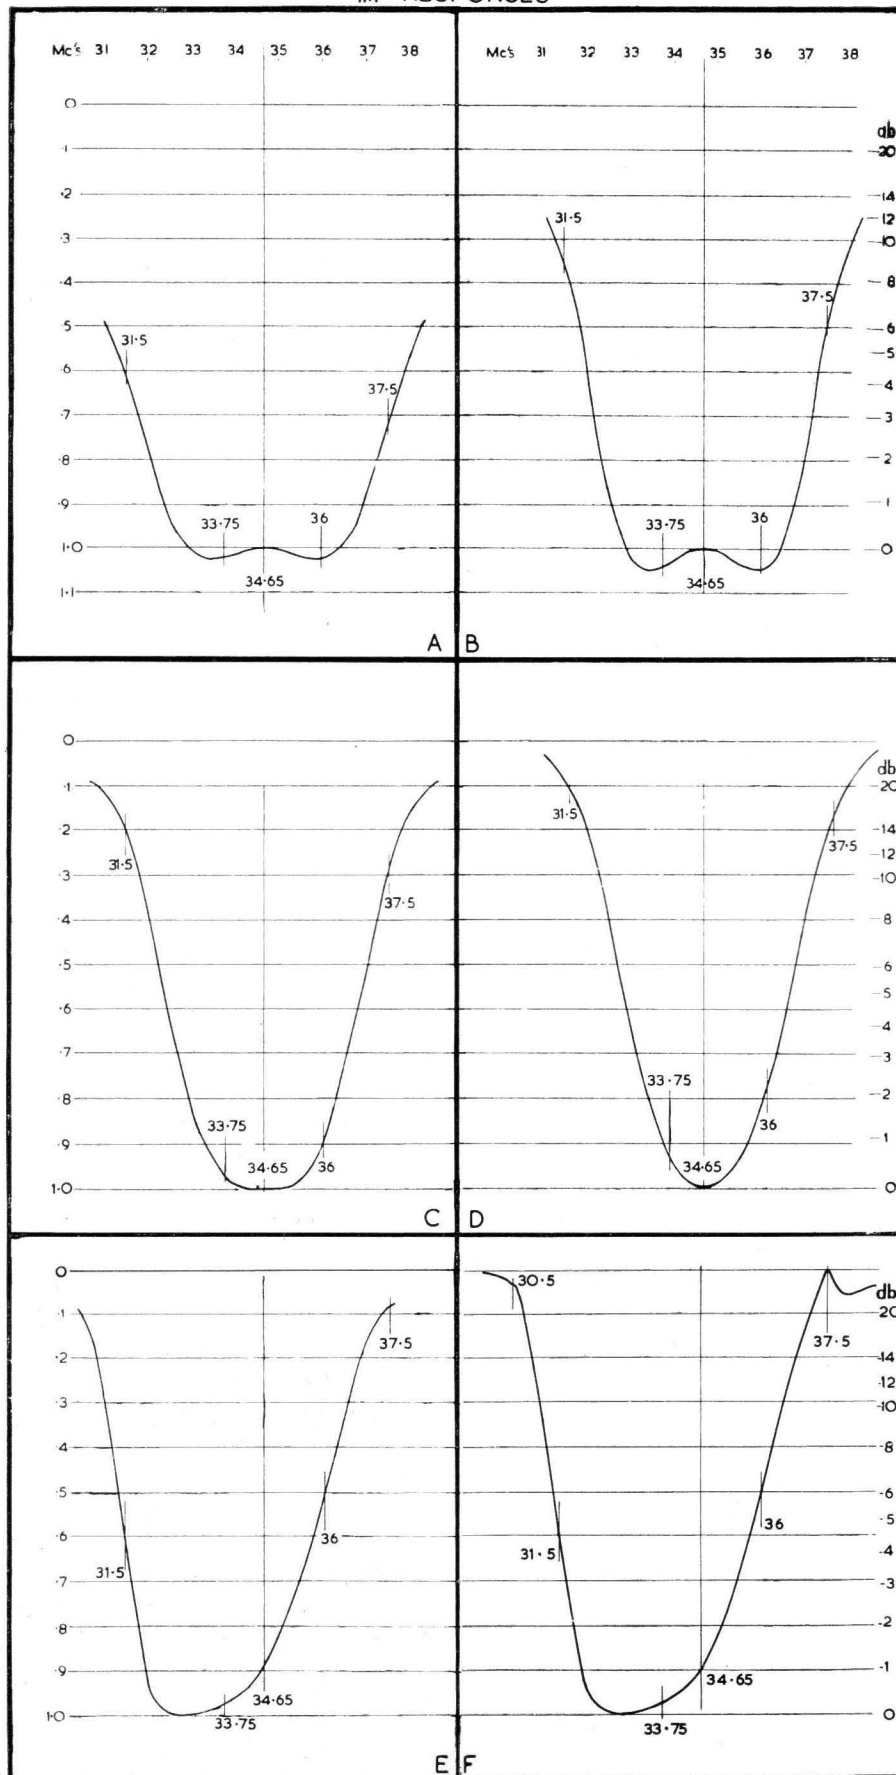

Fig. 8 — Oscilloscope Patterns Obtained with Sweep Oscillator Input.
(1) Connect the sweep output between the grid of V6 and earth. Adjust the core of L20 to peak the response at 34.65 Mc/s, with the core in the position closest to the chassis. Adjust the core in IFT4 to give a symmetrical response with the core in the position furthest from the chassis, and then vary both to obtain the response shown in A (Fig. 8).
(2) Remove the sweep generator output from the grid of V6 and re-connect it to the grid of V5. Insert a core in L18 and peak the response at 34.65 Mc/s with the core in the position closest to the chassis. Adjust the core of IFT3 to give a symmetrical response with the core in the position furthest from the chassis, and then vary both to obtain the response shown in B.
(3) Remove the sweep generator output from the grid of V6 and re-connect it to the junction of C25 and L16. Adjust the core of IFT2 to make